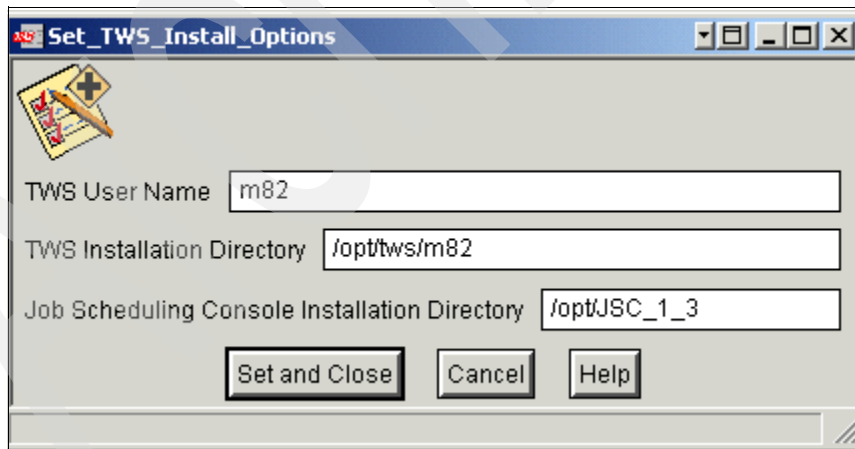

Figure 8-12 Values used in the lab environment in Set_TWS_Install_Options window
8. Enter the values for *TWSuser* in the TWS User Name text field, *TWSHome* in the TWS Installation Directory text field, and the JSC directory in the Job Scheduling Console Installation Directory text field. In our environment for this book, we used the values m82, /opt/tws/m82, and /opt/JSC_1_3, respectively, as shown in Figure 8-12.